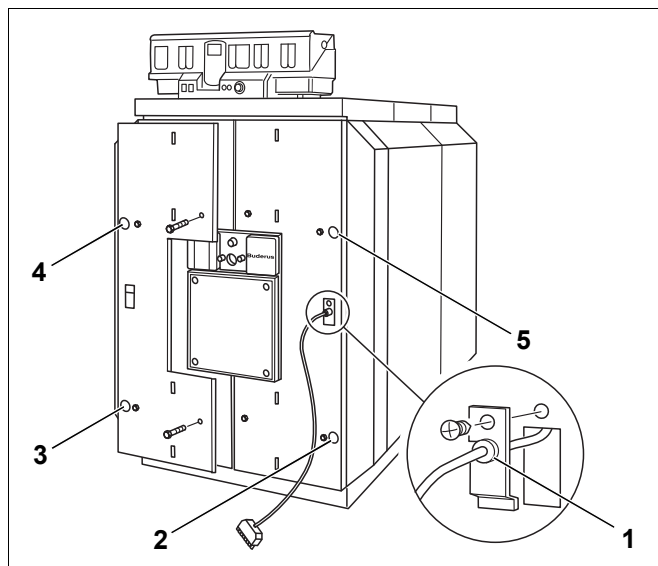

Fig. 57 Install the burner door casing
- Hook the burner cable with strain relief into the cable gland (Fig. 57, [1]).
- Push the burner door casing from the front onto the burner door, and secure with four bolts on the door (Fig. 57, [2] to [5]).